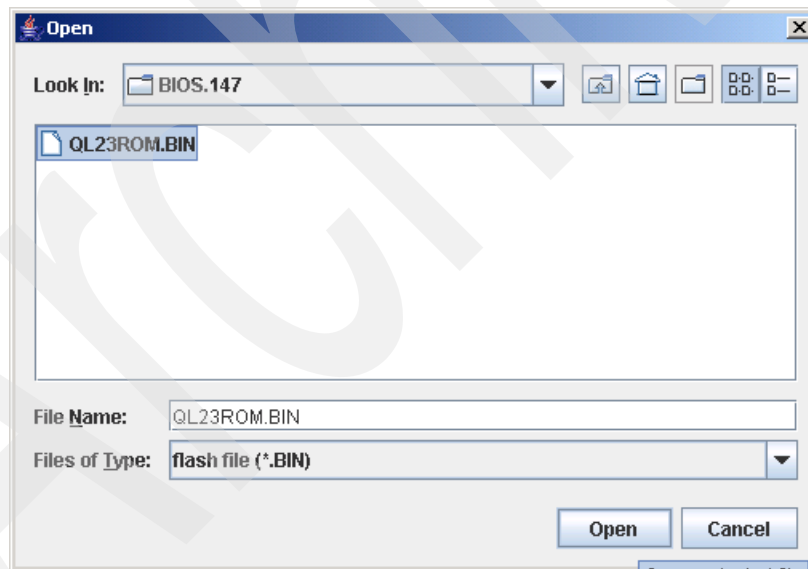

Figure 7-33 Qlogic SANsurfer HBA FC2-133 BIOS update file
5. Select the corresponding file for your adapter. In Figure 7-33, we show the download for a Qlogic 234x adapter.